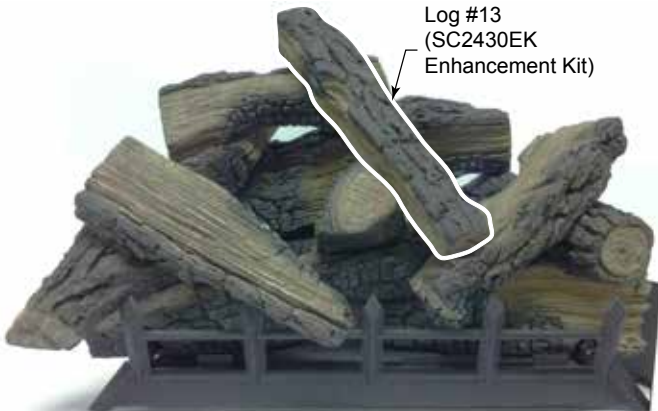

Figure 35
- Place log #13 onto log #12 and top front right log (#10) by placing notch on bottom of log onto locating block on log #12. Rest bottom of log onto log #10 and center log (#9). *Figure 35*